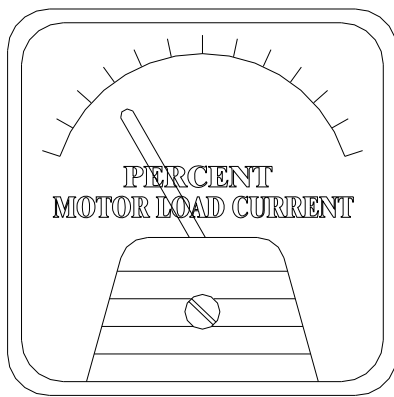

Figure 3
5. Monitor the "LOAD METER" (Figure 3) on the face of the panel to determine at what percent of the Hog Drive Motor Full Load Amps the feed conveyor stops.